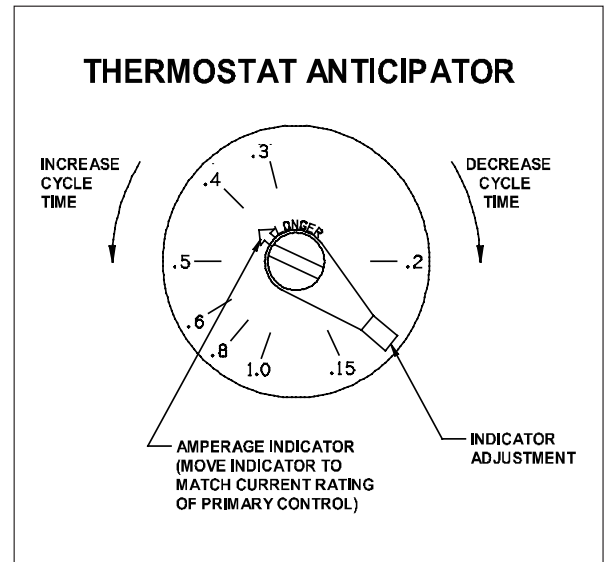

Figure 4
4. Time the burn cycles and adjust as follows; To make the cycle time longer, increase the amount on the anticipator (Example: .45 to .5 Amps); to decrease cycle time, reduce the amount on the anticipator (Example: .45 to .3 Amps) (See Figure 4)